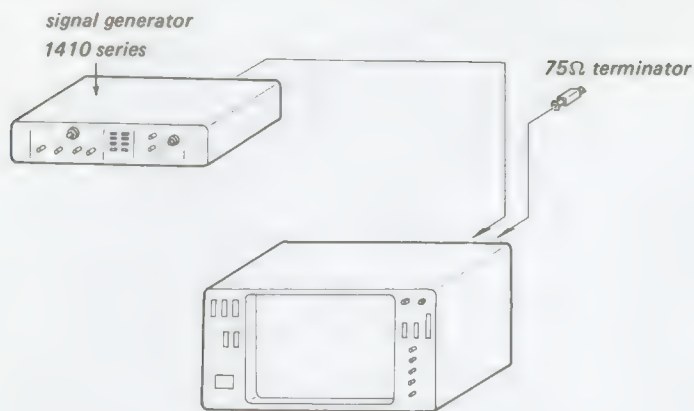

Fig. 5-134.
1. Complete the connections as shown in Fig. 5-134.